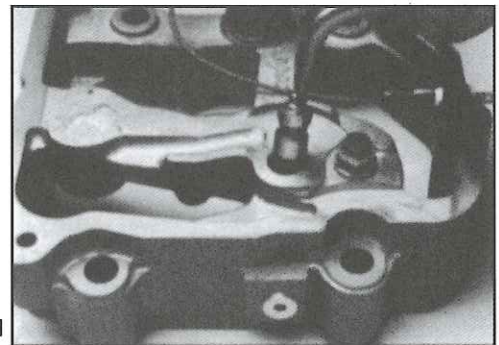

Fig. 41
2. Using needle nose pliers, reach into the bore and grasp the stem of the control valve. Pull valve straight up and out of its bore (Fig. 41).